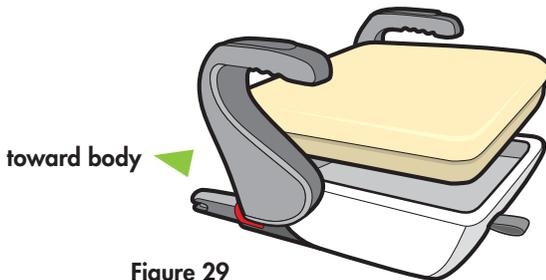

Figure 29
1. Place the base frame right side up with the UAS Connectors pointing toward your body, as shown in **Figure 29**.